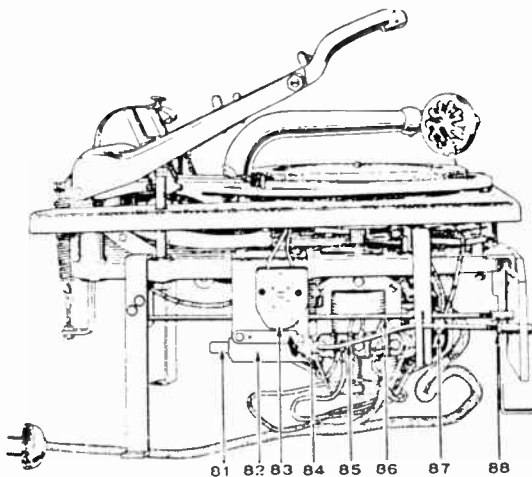

Fig. 12 - Automatic Unit Side View
a. Note that the condition is not caused by a wire between the reject rod collar 87, Fig. 12, and the fork portion of the trip lever.
- d. Start switch position 83, Fig. 12, out of adjustment, preventing switch slide 81, Fig. 12, from tripping switch.
- d. Defective start switch 83, Fig. 12.
- a. Defective start switch 83, Fig. 12.
- b. Defective start switch 83, Fig. 12.